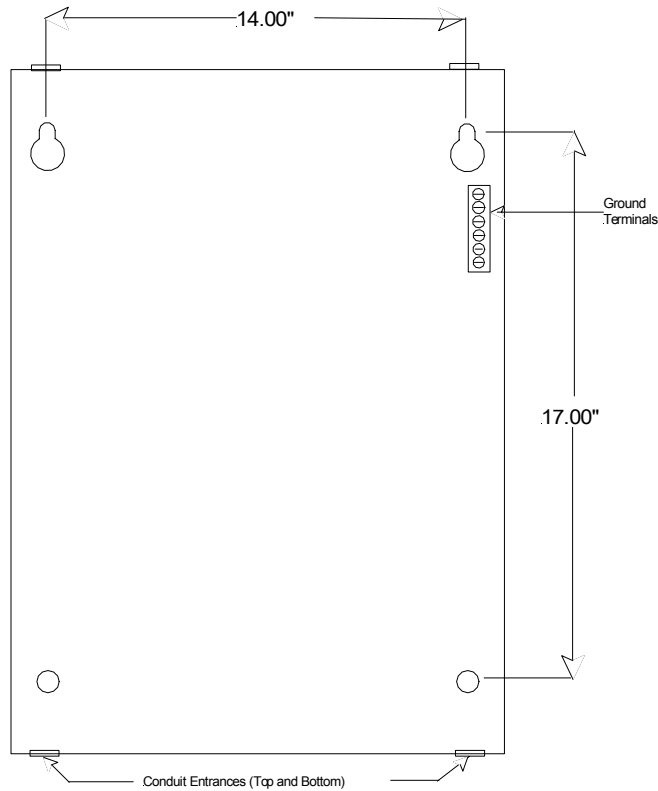

Figure 3-18
3. Connect the panel to earth ground, following the National Electrical Code (NEC) and local codes for the type of system being installed. Wire gauge selection of the earth ground wiring should involve consideration of all factors, including maximum allowable wire resistance and length. The panel is tied to earth ground by connecting the ground terminals to an earth ground. The location of the ground terminal strip within the panel is shown in Figure 3-18 for both the SPB-160 and the SPB-80/4 (Page 35).
The shield of each cable shall be connected only at one end. Each shield of each cable that connects to the panel is to be connected to the grounding points provided near the knockout locations on the chassis (see Figure 3-18 on Page 35).
1. See Figure 3-18 on page 35, for panel mounting hole layout.